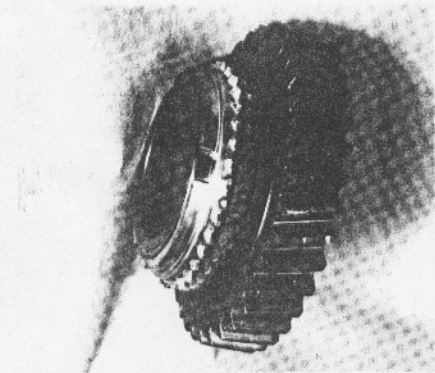

Figure 19 — Cone and blocker ring referenced in Step 4.
4. All synchronizer (blocker) rings should be checked for hardness (R_B 75-80 preferred) and checked for roundness either with a dial indicator or with "Prussian Blue" against a cone. (Figure 19, page 4-11)